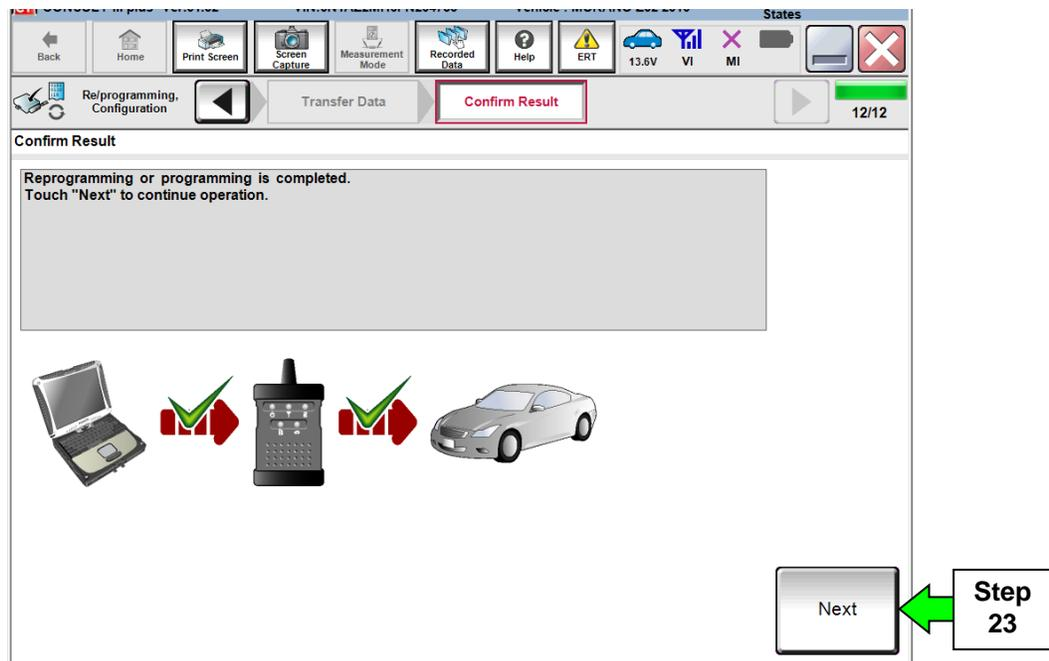

Figure 16
22. When the screen in Figure 16 displays, reprogramming is complete.
NOTE: If the screen in Figure 16 is not displayed (which indicates reprogramming did not complete), refer to the information on the next page.